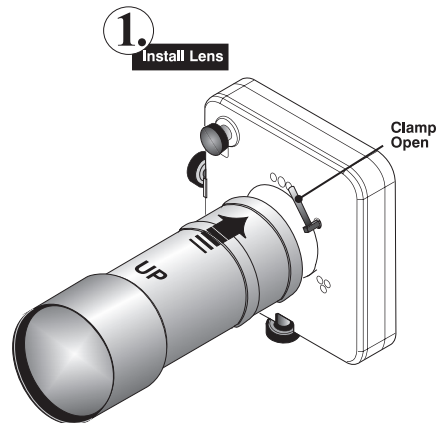

Figure 2-7 Open Lens Clamp and Insert Lens
2. Turn the lens clamp to the OPEN position. See **Figure 2-7**.